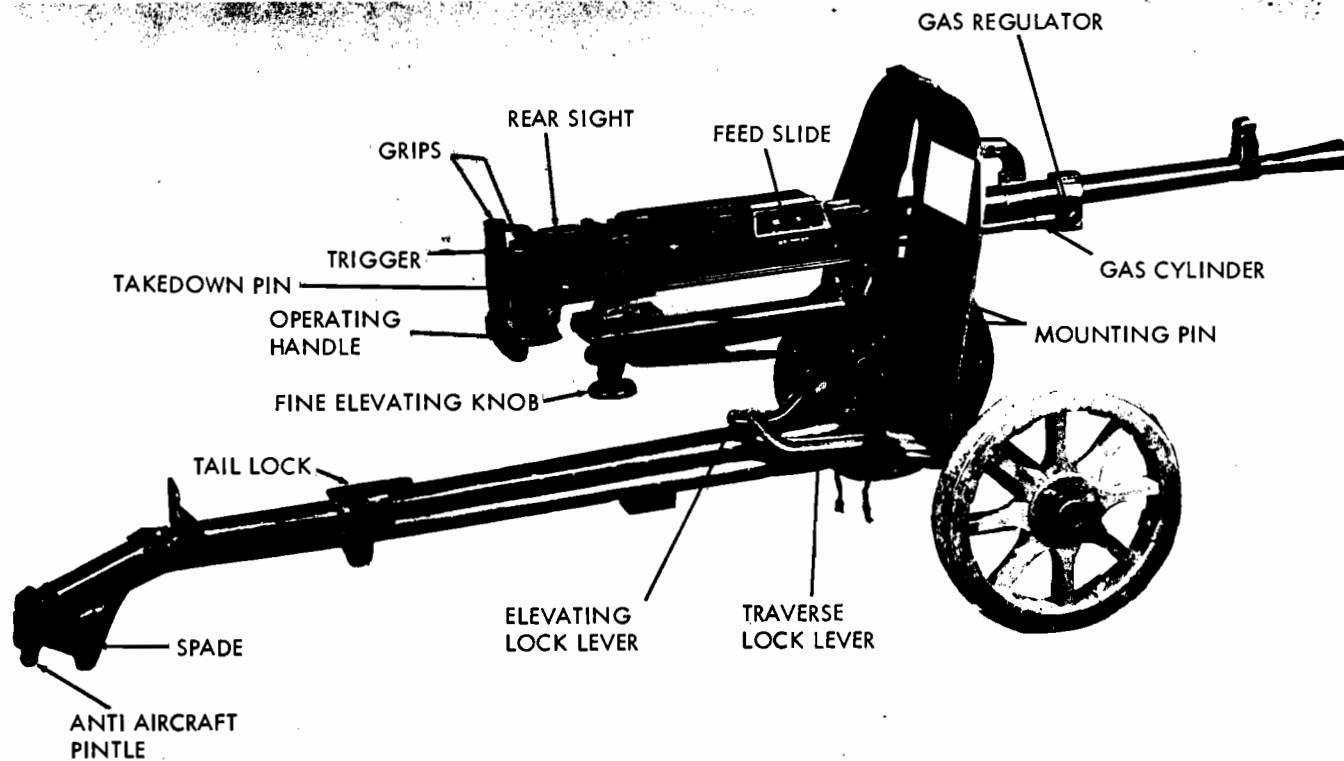

Figure 70. 7.62-mm Goryunov heavy machinegun (SG-43).
- SG-43: Smooth barrel, sear attached to driving-spring guide, plain barrel lock, no dust covers, operating handle between spade grips (fig. 70).
b. If an SG-43 or SG-43M, pull the takedown pin (fig. 70) to the right and remove the backplate. If the gun is an SGM, SGMT, or SGMB, depress the round detent in the latch on the top center of the backplate and slide the latch to the rear. Rotate the backplate to the right until it can be removed. Pull out the driving spring.
b. The guns with pin-type mount adapters are installed by positioning them on their mounts and inserting the two mounting pins (fig. 70). The guns with clamp-type mount adapters are installed by placing the curved flanges on the front mount adapter into their seats on the mount; then press the rear of
c. These mounts have coarse elevating and traversing movements with lock levers to hold the gun in position (fig. 70). Fine elevation is obtained by means of the fine elevating knob (fig. 70). The gun should never be fired unless the elevating lock lever (fig. 70) is tightened. Normally the traverse lock lever should also be tightened when firing; however, the gun can be fired in free traverse.
e. The spades (fig. 70) should be imbedded into the ground or braced, in order to obtain the best accuracy.